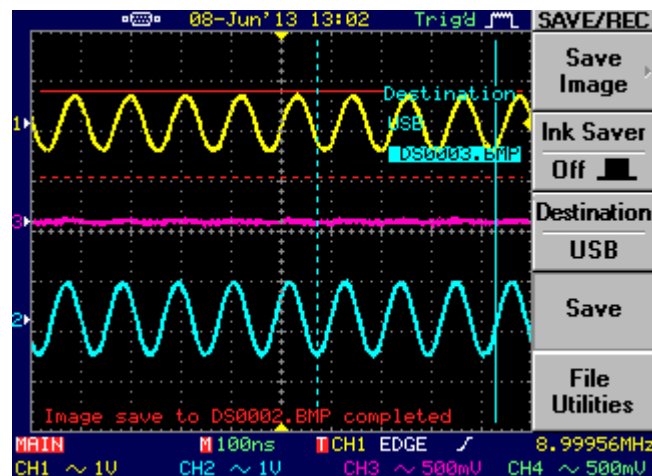
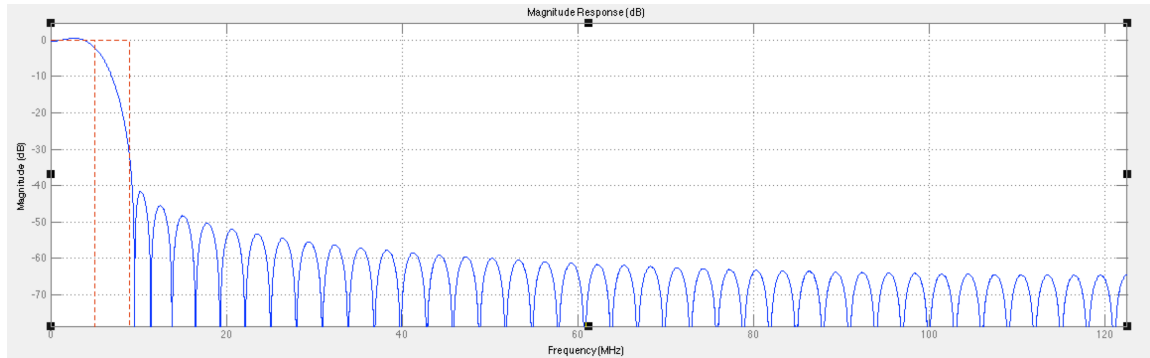

Figure 23 - Function generator output at 9Mhz.
Figure 24 – Magnitude Response
6. Continue to increase the frequency of the function generator beyond the filter cutoff. The amplitude of the filtered signal should fall gradually to zero as the frequency is increased towards the stop frequency (As shown in Figure 23 and Figure 24).